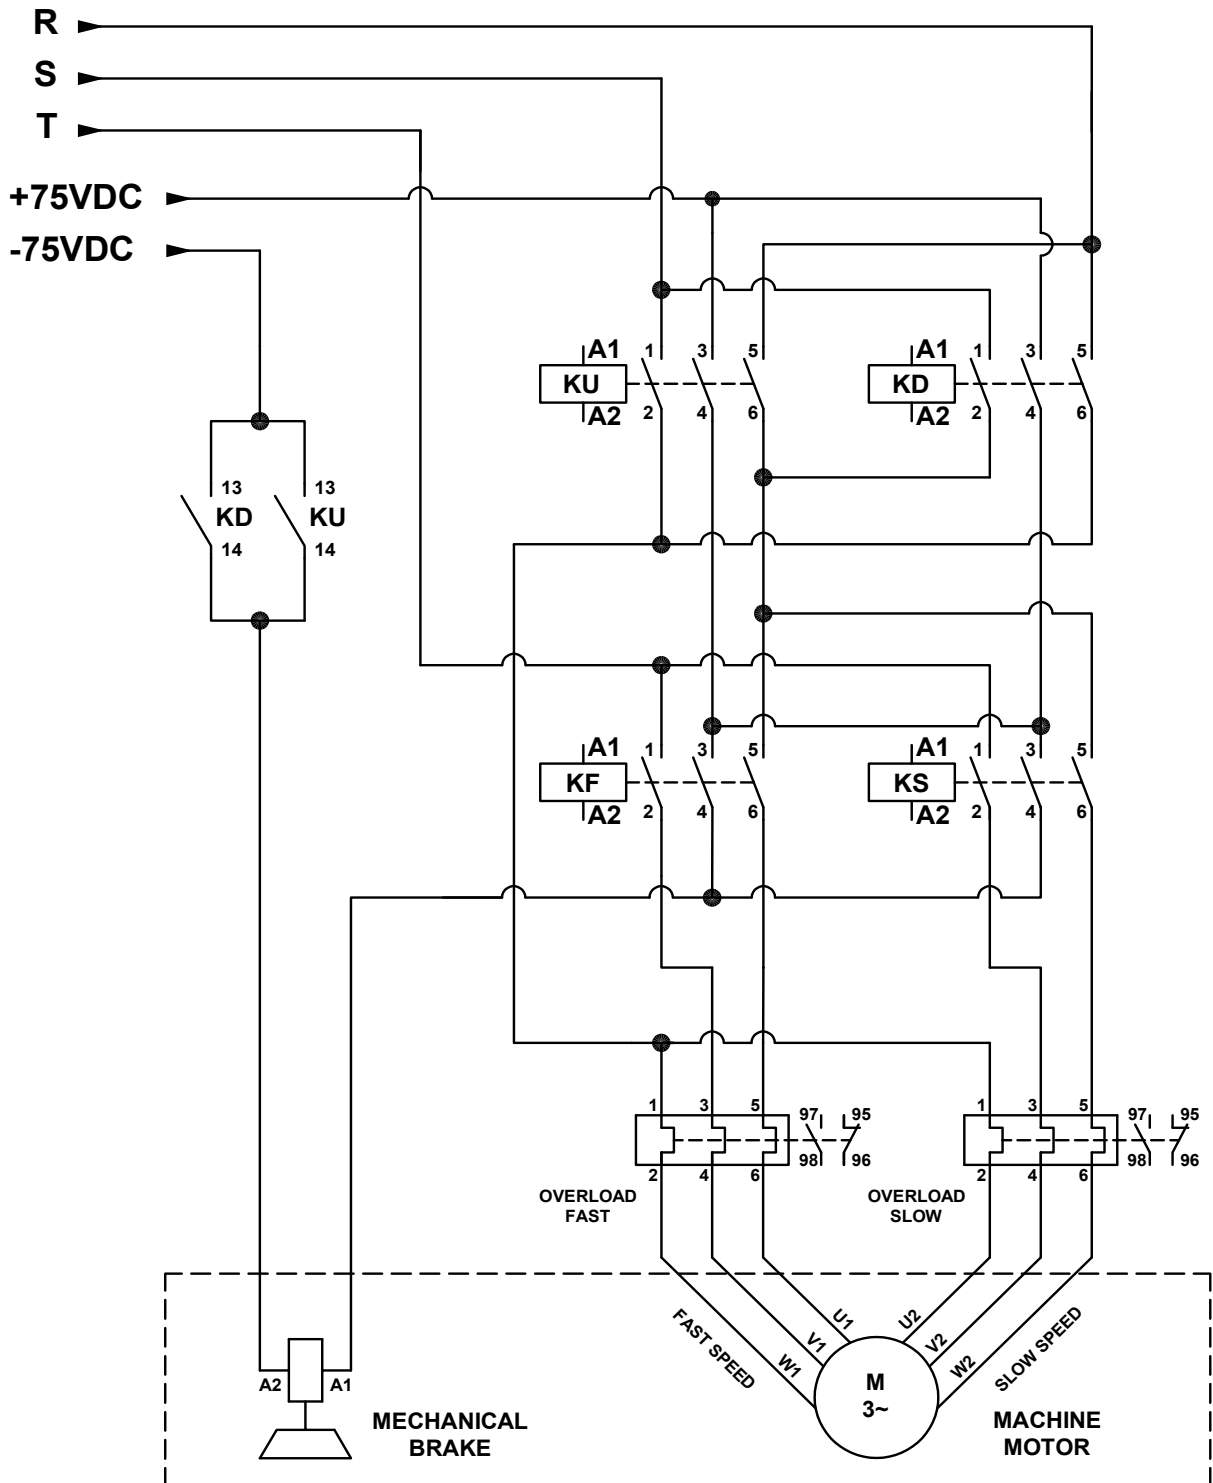

Figure 14.0 - Three-Phase and Brake Connections
The terminals of operating the Three-Phase Distribution on the Motion contactors are wired and connected as illustrated in Figure 14.0.
- Figure 14.0 illustrates the distribution of the three phases on the motion contactors (Fast, Slow, Up and Down), alongside the method of connection and operation of the system brakes.
- Figure 14.0 represents the condition that the system brake is operated with 75V DC.